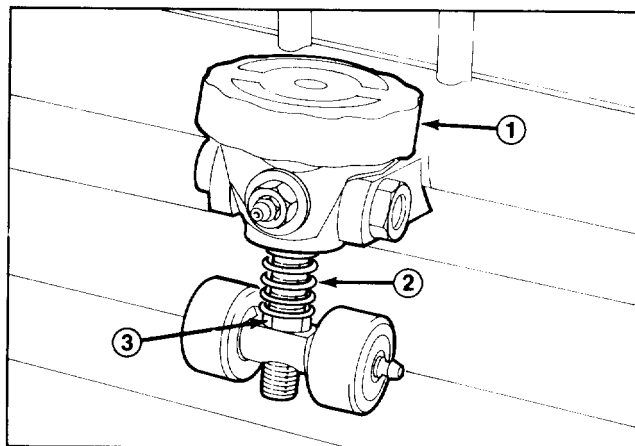

Figure 15
**Note:** Check adjustment knob assembly to assure the die spring is compressed to a dimension of 13/16" by tightening locknut (left hand thread) (Fig. 15).
2. On either end of front side of reel, insert a long strip of newspaper between reel and bedknife. While slowly rotating reel forward, turn bedknife adjusting knob (Fig. 15) clockwise, one click at a time, until paper is pinched lightly, which results in a slight drag when paper is pulled.